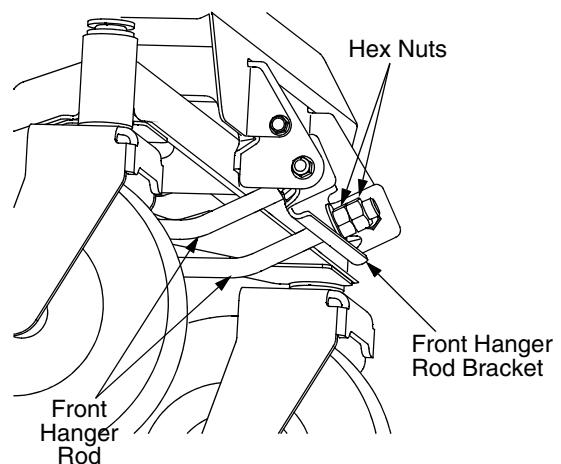

Figure 34
- From the front of the tractor, loosen the outer nuts on the deck front hanger rod, and turn them away from the inner nuts. See Figure 34.
- If the front of the deck was too low, turn the inner hex nuts clockwise against the hanger bracket to shorten the front hanger rod and raise the front of the deck. See Figure 34.